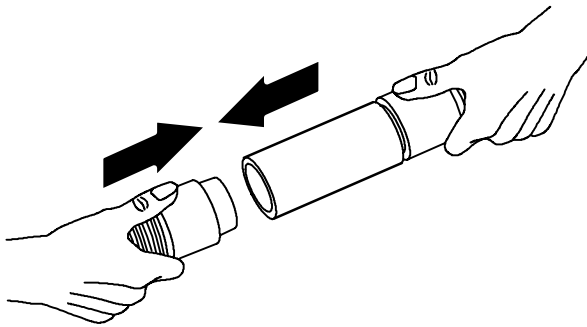

FIG. 36
3. Connect wand's vacuum hose using hose adapter supplied with wand (Figure 36).